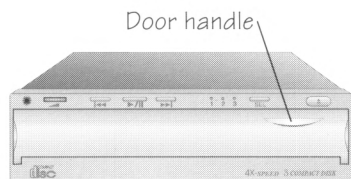

Fig. 10: CD-ROM drive (closed)
1. Open the CD-ROM drive unit door by placing your fingertip on the door handle and pressing downward. The door opens. (See Figures 10 and 11.)